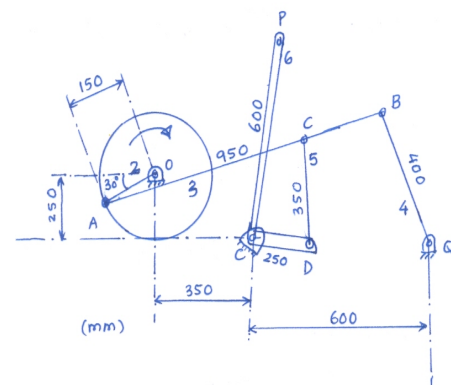

Fig. 2, Q. 2 (b) OR
- (b)** The configuration diagram of a wrapping machine is given in **Figure 2**. Determine the velocity of the point P on the bell-crank lever DCP if crank OA rotates at 80 rad/s. Use instantaneous centre method. **07**